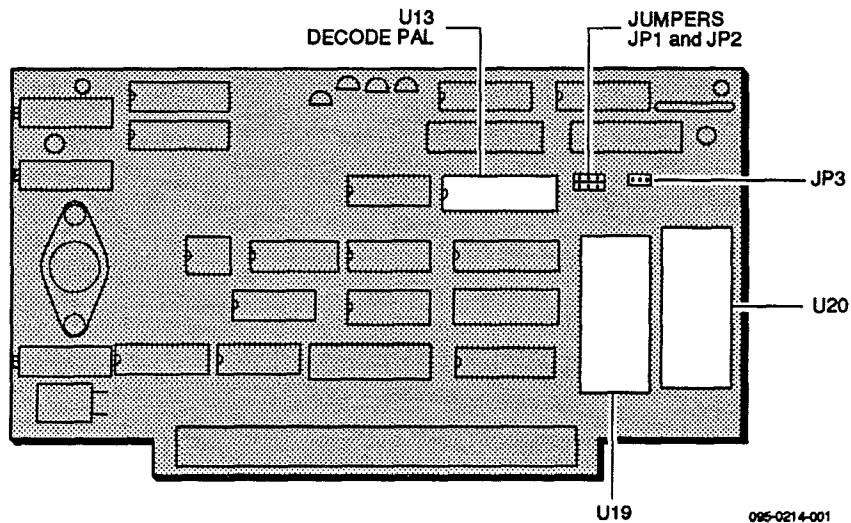

Figure 4. Update Component Location
9. Turn the 701-2126 memory board over so the component side faces up (Figure 4) in preparation for firmware installation.
1. Remove EPROMs U19, U20 and decode PAL U13 (see figure 4) from the memory board using an IC extractor tool or small slot-head screwdriver.